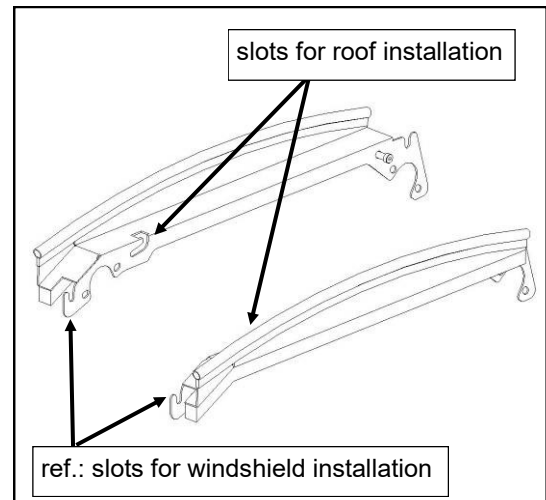

Fig. 5.2 (description of slot usage)
5.2 Orient the roof so the two quick attach pins are facing forward and the latches are facing the rear of the vehicle. Hook the pins into the receiving slots towards the front of the upper mounts and push down and forward to fully engage in the slots. See fig. 5.2 for the correct slots to engage in. Snap the latches onto the pins located on the rear of the upper mounts until they are fully engaged. Two (2) clicks means fully engaged.